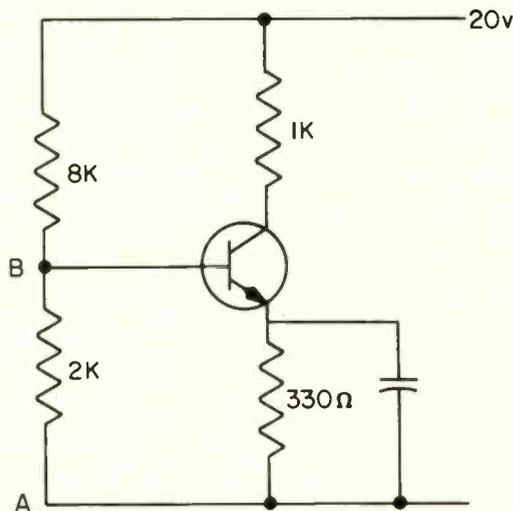

Fig. 1
2. The voltage V_{BA} would be approximately what in Fig. 1?